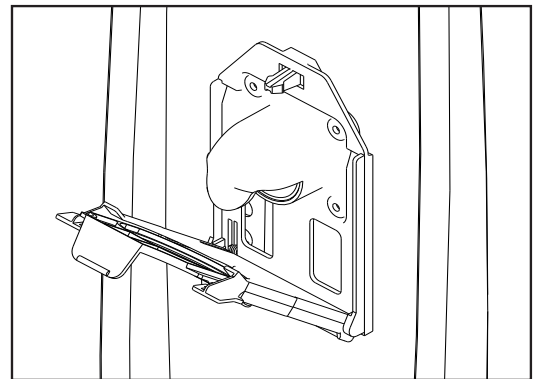

Fig. 4
- Push the top of the bag collar upward until the collar “snaps” into place on the vacuum (Fig. 4).